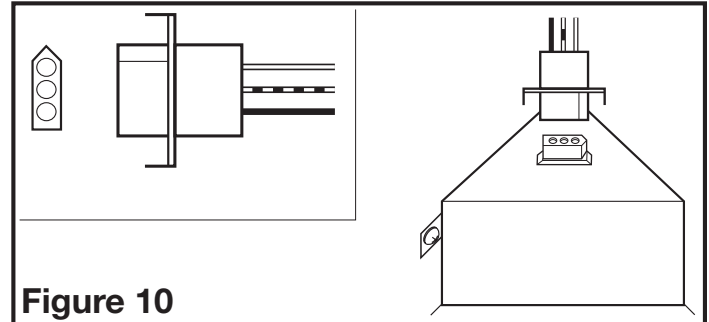

Figure 10
3. Plug the fan's quick connect motor cord into the receptacle. This cord will only fit one way into the receptacle (**Figure 10**).